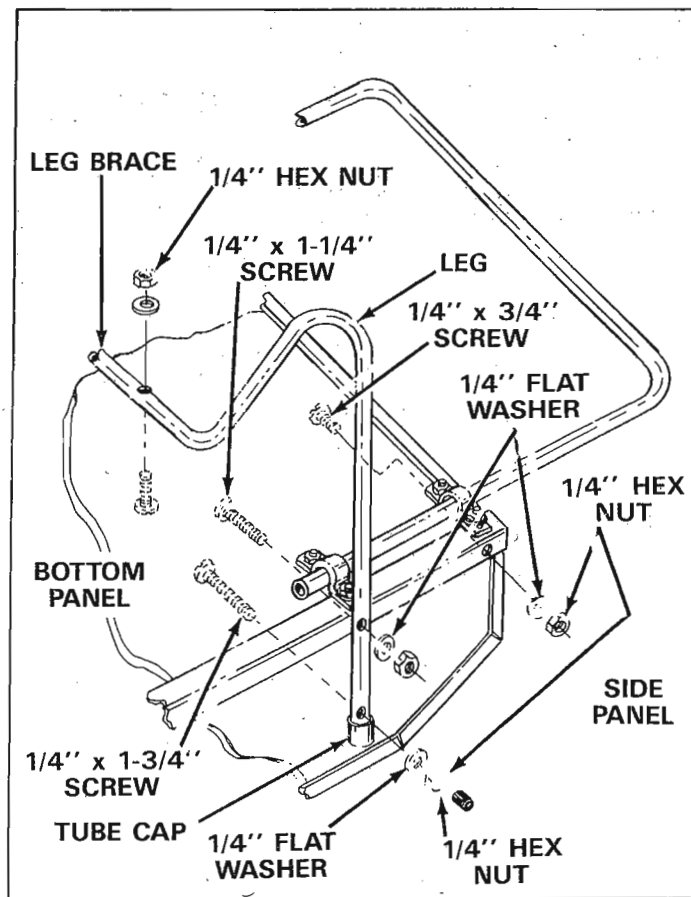

FIGURE 10.
Place tube caps on ends of "W" leg. See figure 10.
- With cart still upside down, assemble the leg to bottom and side of cart. Line up holes in center of "W" leg with two holes in bottom. Secure with two 1/4" x 1-3/4" screws, inserted from inside of cart, fasten with 1/4 flat washers and 1/4 hex nuts. See figure 10. Do not tighten at this time.
- Assemble the leg to each of the side panels with two 1/4 x 1-3/4" screws, inserted from inside of cart, fasten with 1/4 flat washers and hex nuts. See figure 10. Assemble 1/4" x 3/4" screws in back hole of both side angles and fasten with 1/4" flat washers and hex nuts.
- Now tighten all screws and nuts securely. Install rubber caps on 1/4 x 1-3/4" screws as shown in figure 10.